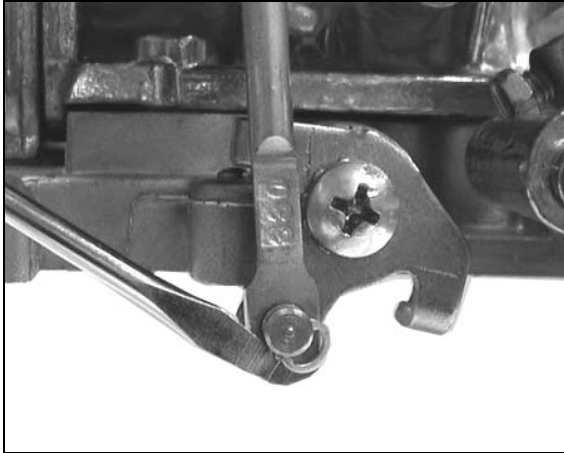

Figure 15
- Remove the clip retaining the diaphragm plunger to the secondary throttle lever using a small flat-blade screwdriver (Figure 15).